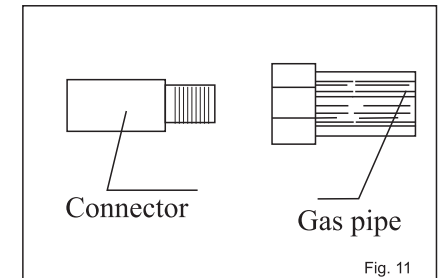

Fig. 11
- Push the rubber hose onto the hose joint as far as it will go. Do not use vinyl plastic hose, as this can be dangerous. Secure the hose (Fig. 11) see to it that the rubber hose does not touch a part of the gas cooker nor lies underneath it.